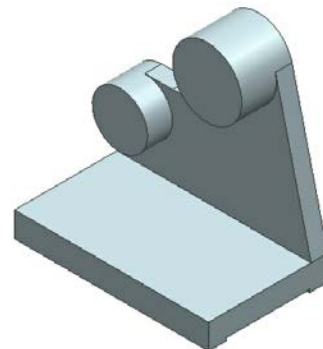

Figure 6-87 Model after creating the fourth feature
7. Choose the **OK** button from the dialog box. The resulting model after creating the fourth feature is shown in Figure 6-87.